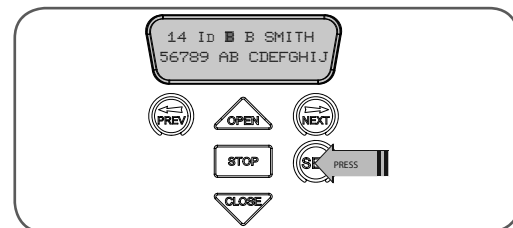

fig 32
1. Press NEXT or PREV to move the cursor. (**Fig. 32**)